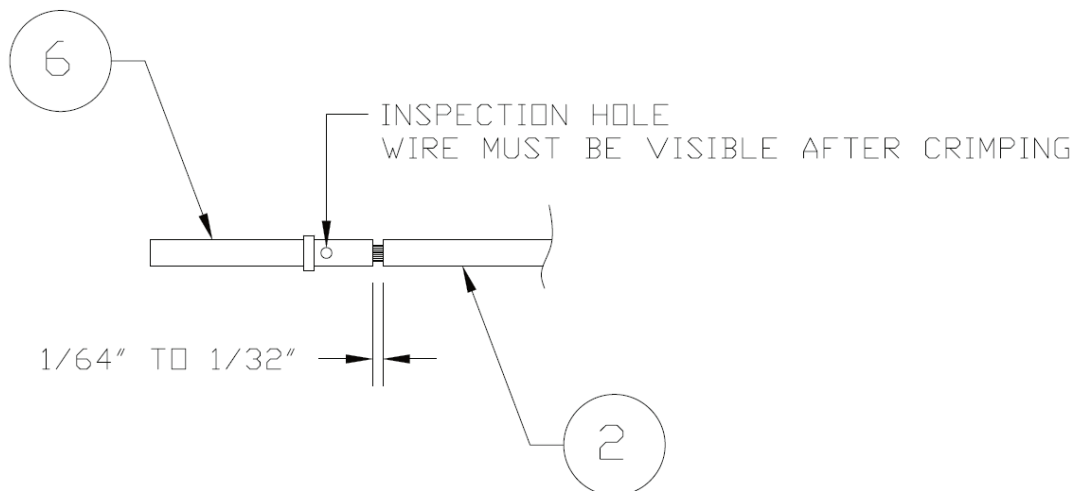

Figure B-3 Insulation/Contact Clearance
5. Strip back approximately 0.17 inches of insulation from each wire of the shielded cable (Item 4) and crimp a contact (Item 8) to each conductor. It is the responsibility of the installer to determine the proper length of insulation to be removed. Wire must be visible in the inspection hole after crimping and the insulation must be 1/64 – 1/32 inches from the end of the contact as shown in Figure B-3.